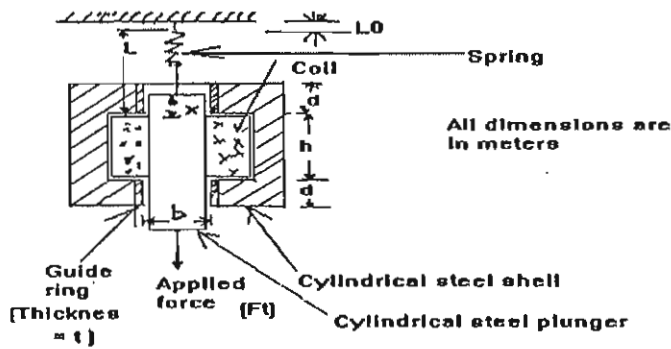

Fig.2
4. Cross section of a cylindrical solenoid magnet is shown in fig.2; which shows the cylindrical plunger of mass 'M' kg. moves vertically in brass guide rings of thickness 't' meter and mean diameter 'b' meter . The permeability of brass is the same as that of free space. The plunger is supported by a spring whose elastance is 'K' newtons/m. Its un-stretched